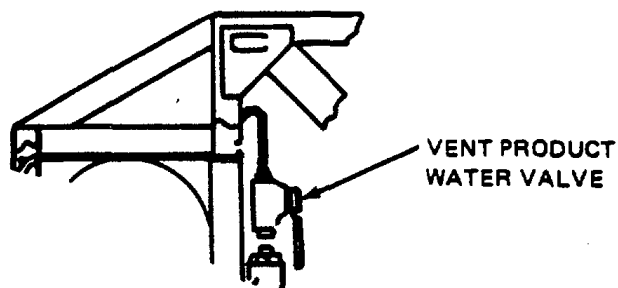

Figure 2-43. Vent Product Water Valve
5. VENT PRODUCT WATER (see fig. 2-43)